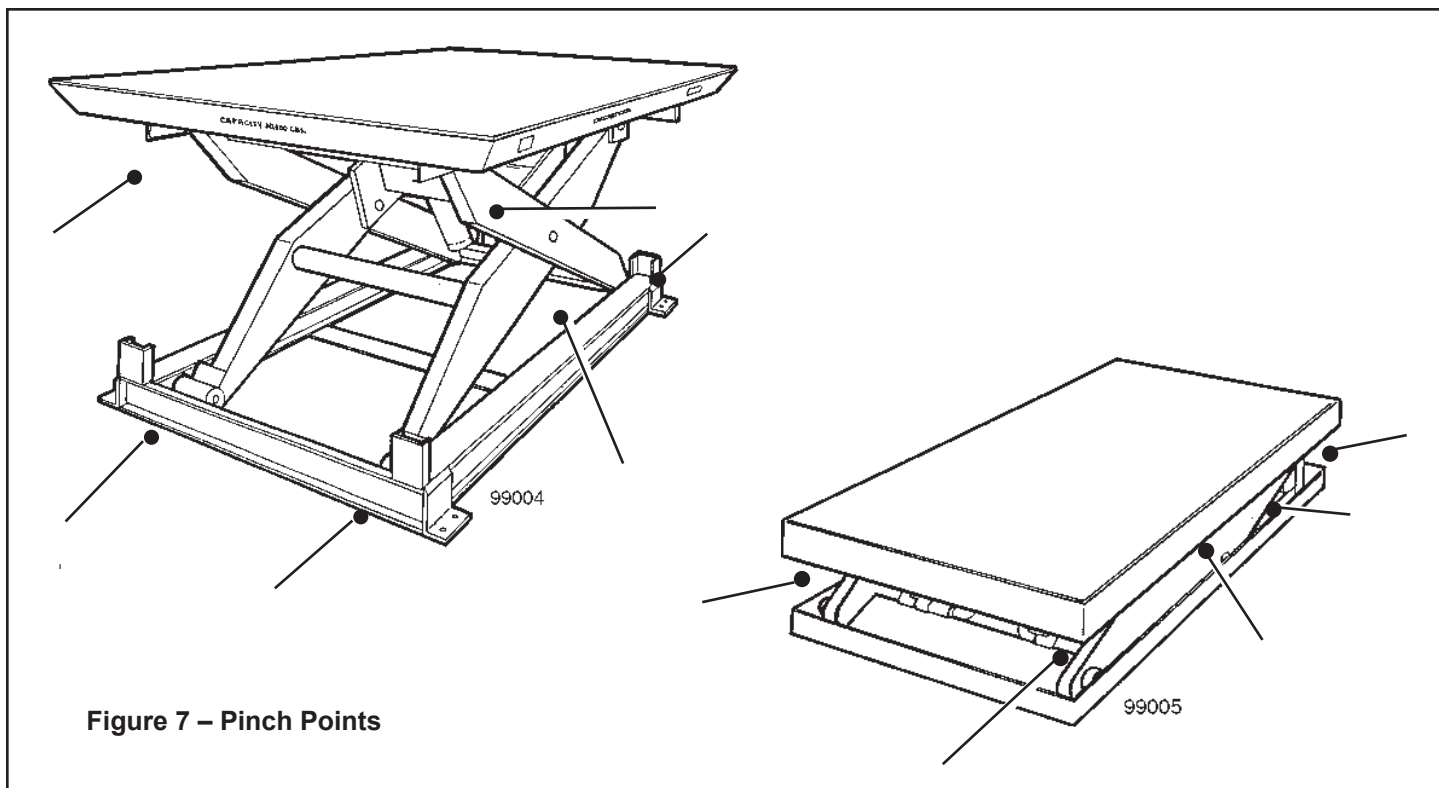

Figure 7 – Pinch Points
The warning labels on the lift are there for your safety. If you find that the labels are worn or missing, or have been painted over, ask Maintenance to replace the labels before you use the lift. The labels are shown in Figure 7.
- The warning labels on the lift are there for the safety of the operators. See Figure 7.